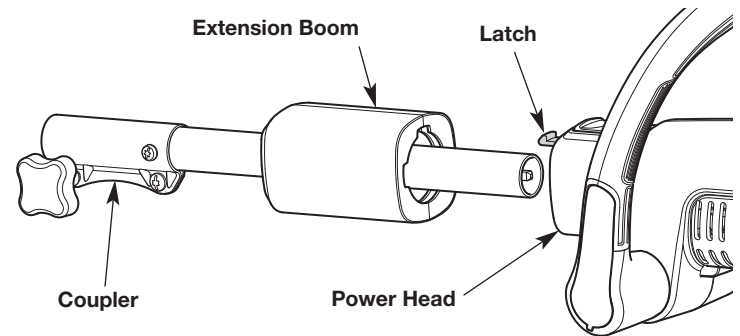

Fig. 1
2. Align the extension boom with the power head (Fig. 1). The coupler should be positioned as shown (Fig. 1).
3. Insert the extension boom into the power head until the latch snaps into place (Fig. 1).